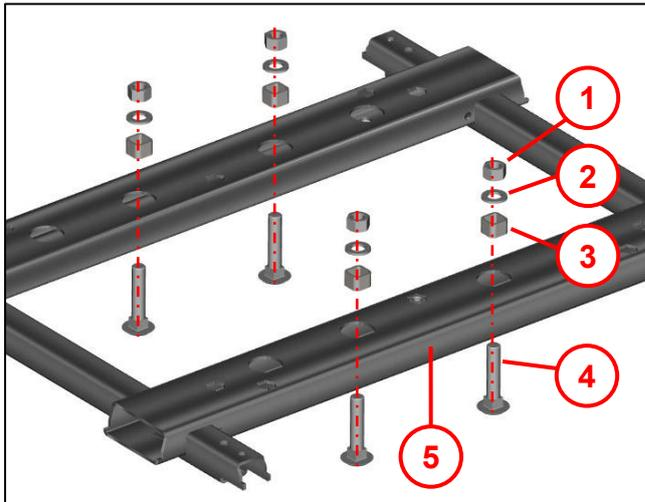
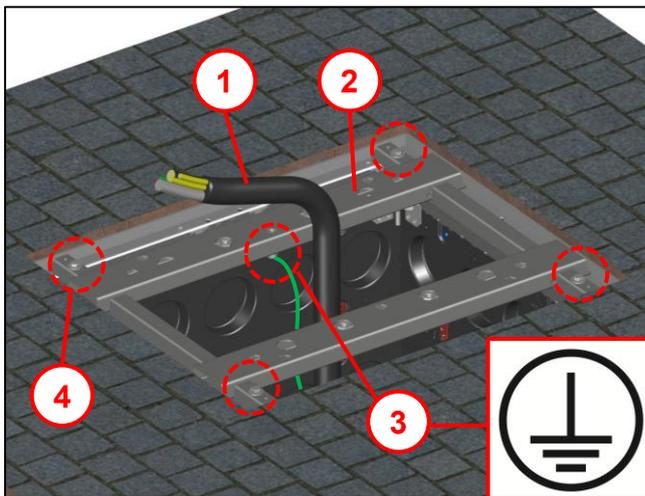

Fig. 18
Fig. 19
- Note Fig. 18 when using round-head bolts (4) with size M16 screw connections, otherwise continue with Fig. 19.
- Insert 4x M16x80 round-head bolts (4) from below into the profile frame (5).
- Fasten from above using 4x 18 mm sections of pipe (3), 4x washers (2) and 4x M16 hex nuts (1).